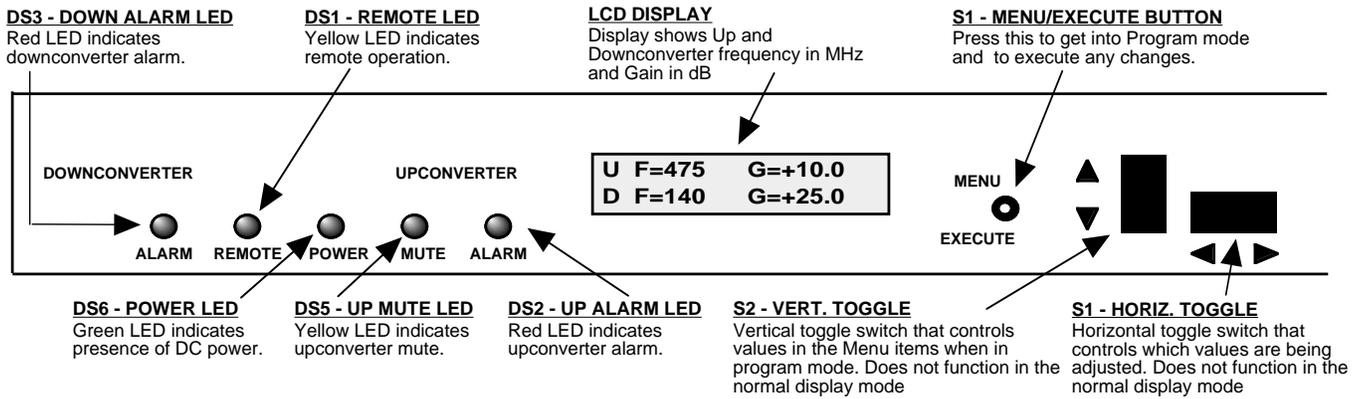

Figure 2.2 Model 2017-1351 Front Panel Controls and Indicators
Figure 2.2 shows the input and output connectors on the rear panel.
- 8.) Be sure DS6 (green, DC Power) is on and DS2 (red, Alarm) is off (Figure 2.2).
- 7.) Be sure DS6 (green, DC Power) is on and DS2 (red, Alarm) is off (Figure 2.2).
2.5.1 Functions - This section describes operation of the front panel controls. There are three operator switches, the LCD display and alarm indicator LEDs. All functions for the equipment are controlled by these components. The functions are (see Figure 2.2):
Alarm indications appear on the LEDs (see figure 2.2).